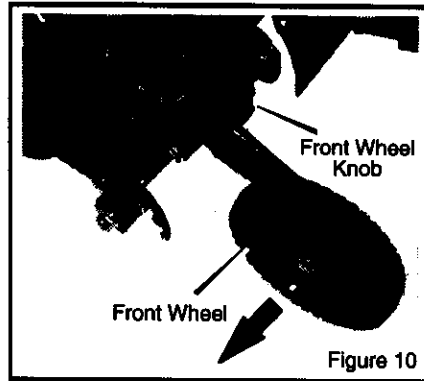

Figure 10
2. Loosen the front wheel knob shown in Figure 10. Slide the front wheel all the way to the right side.